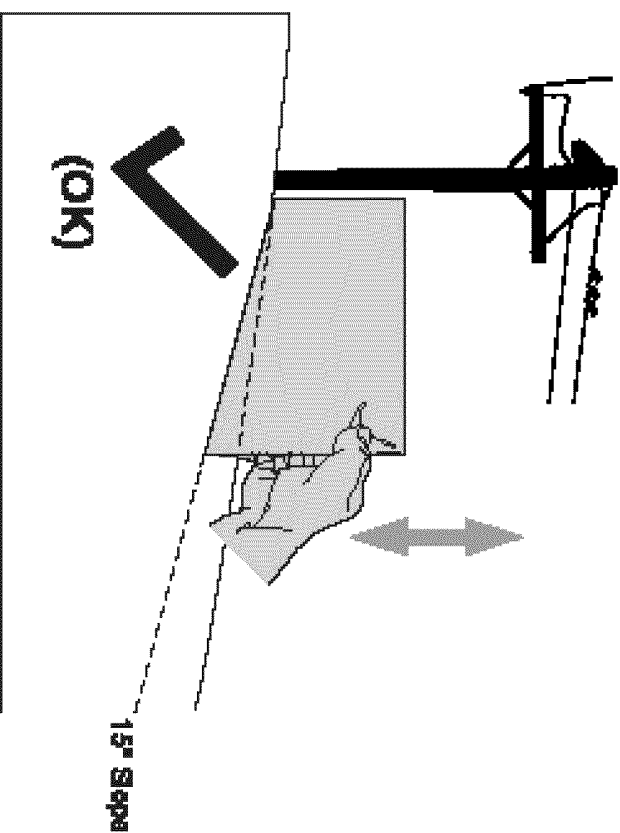
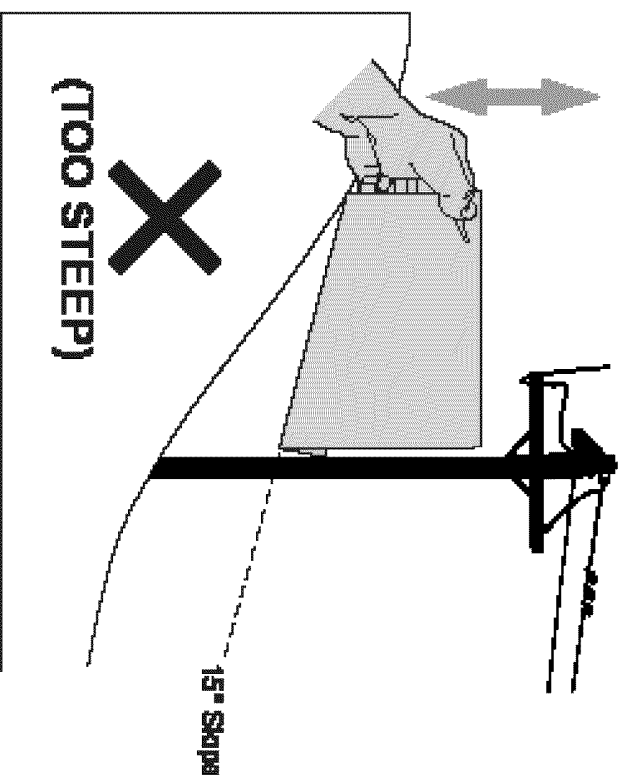

Figure 1
Figure 2
3. Align either side of the slope gauge with the object (See Figure 1 and Figure 2.)
4. Adjust gauge up or down until the left corner touches the slope (See Figure 1 and Figure 2).
5. If there is a gap between the gauge, the slope is too steep for safe operation (See Figure 2 above).